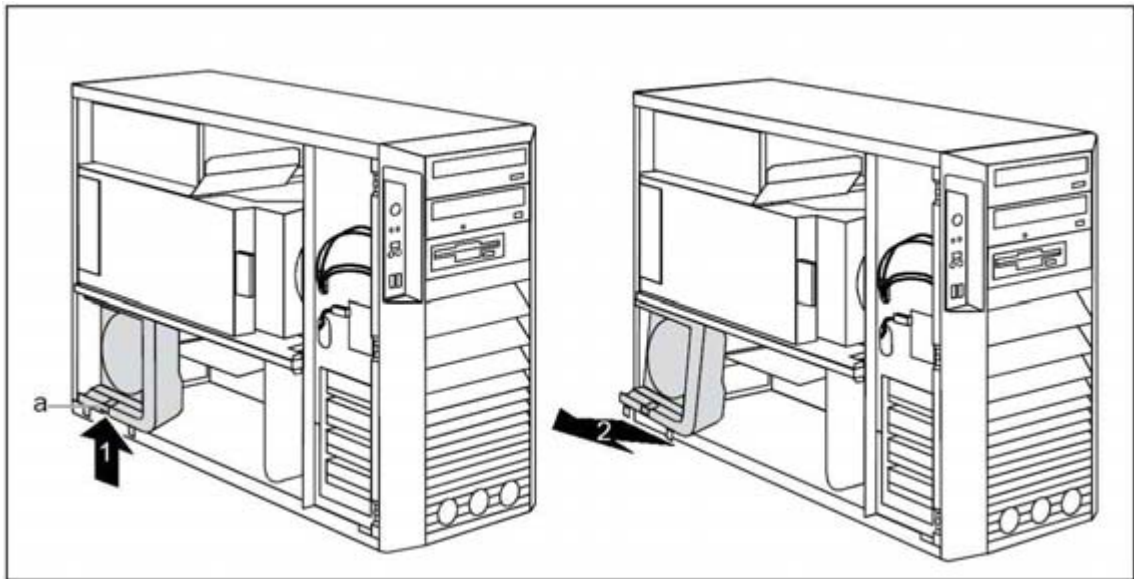

Fig. 50: Removing the side fan M450_
3. Release the side fan by pressing the locking hook (a/ Fig. 50 / p. 82) in the direction of the arrow (1/ Fig. 50 / p. 82).
4. Pull the bottom edge of the side fan in the direction of the arrow (2/ Fig. 50 / p. 82) out of the casing.